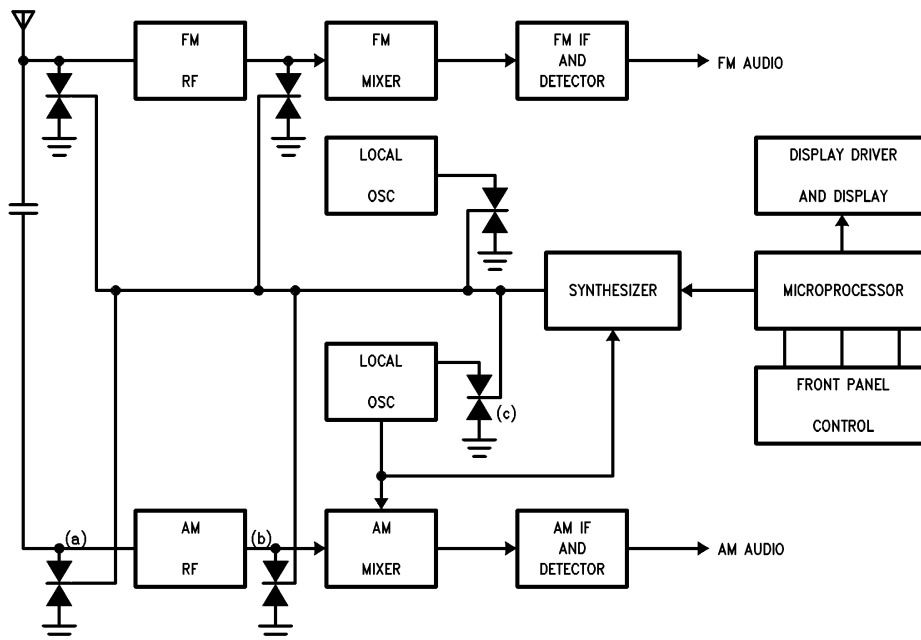

FIGURE 1. Conventional Electronically Tuned Radio
The conventional high performance AM radio requires at least three tuned circuits for AM reception (see *Figure 1*). These tuned circuits include 3 varactor diodes which must be matched to ensure tracking over a wide Local Oscillator (LO) operating range. The cost of these matched varactors and labor associated with alignment of the three stages is significant.